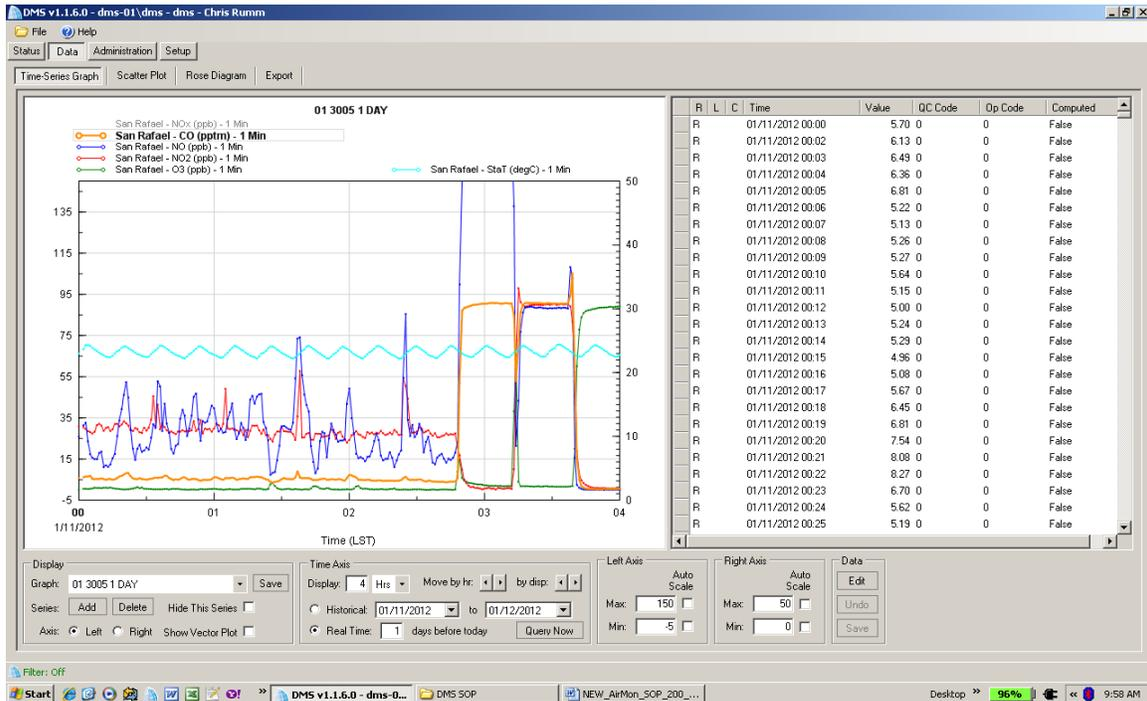

Figure 6: Reviewed DMS data indicating 'R'
- f. The letter 'R' indicating that data has been reviewed should appear on the left side of the tabular data next to each reviewed data value; (**NOTE:** see Figure 6: Reviewed DMS data indicating 'R')